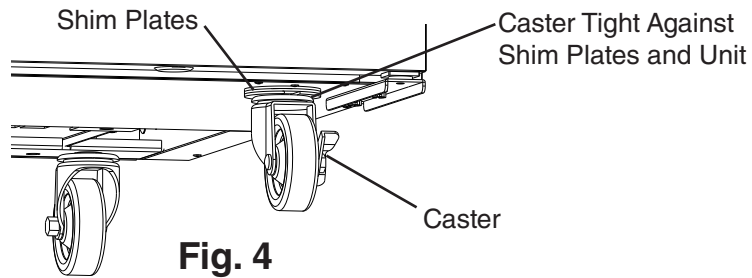

**Fig. 4**
- 4) Tighten the caster. See Fig. 4. **NOTICE! Make sure the caster is tight and no slack is left between the caster, shim plates, and appliance.**